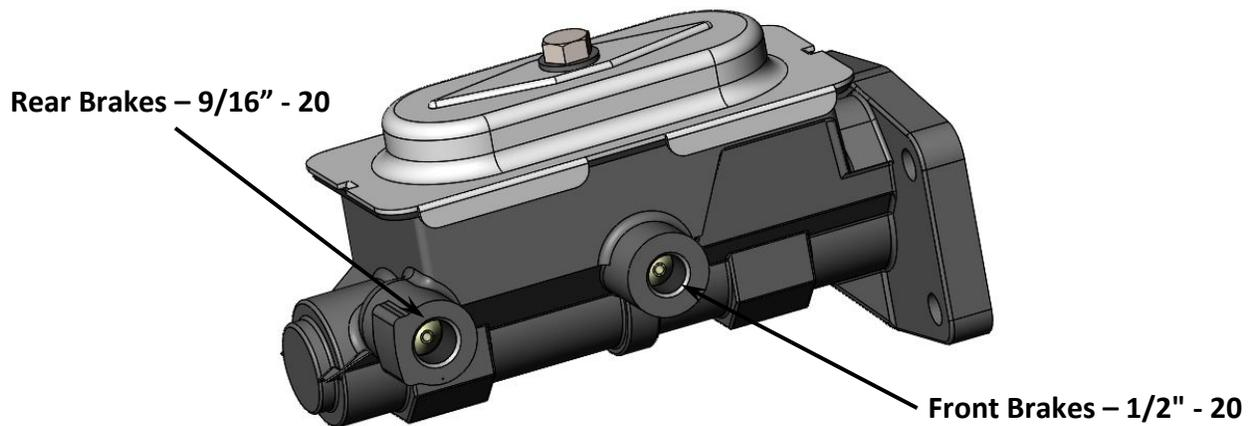

Figure 2 – Master Cylinder Port Diagram
8. Due to the change from a single bowl to a dual bowl, an additional brake line will be required. This will be supplied by the installer. Figure 2 below shows the proper front and rear port locations.